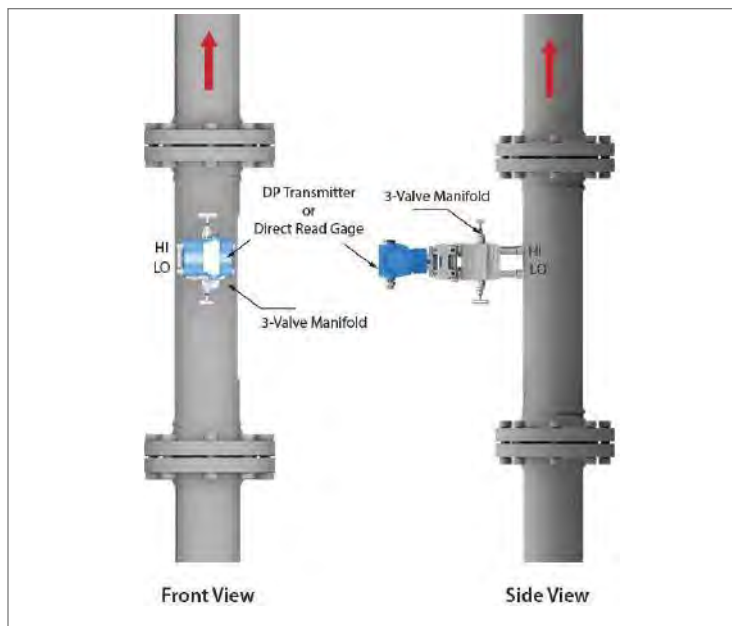

Fig 31: Vertical Installations for Liquids
- The pressure taps should be on the center of the horizontal line (3 o'clock or 9 o'clock) of the primary device. In condensing hot vapor service, such as steam, the fluid in the impulse lines is liquid condensed from the vapor. In this case, the pressure taps should be horizontal with the impulse lines and positioned to the DP transmitter, as shown in figure 31.